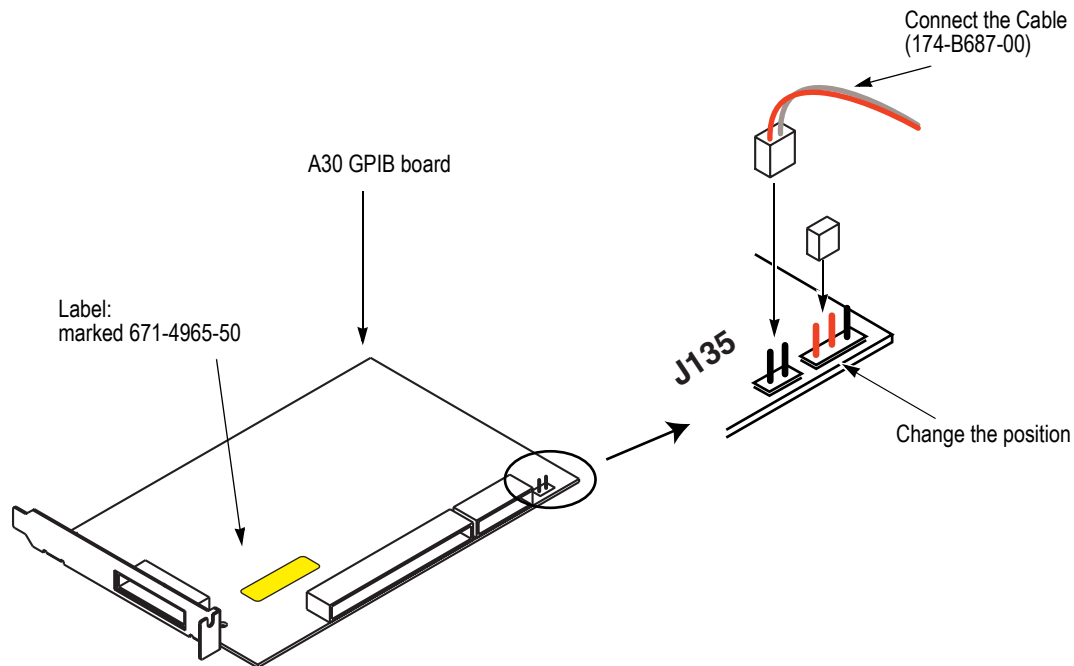

Figure 5: Modifying the A30 GPIB board
1. Change the position of the bus conductor from right side to left side. See Figure 5.